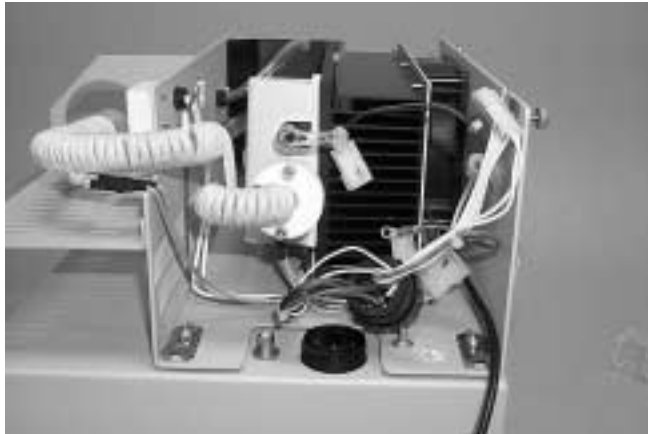

Figure 12
11. Disconnect all wiring including the ground wire. See Fig.12.